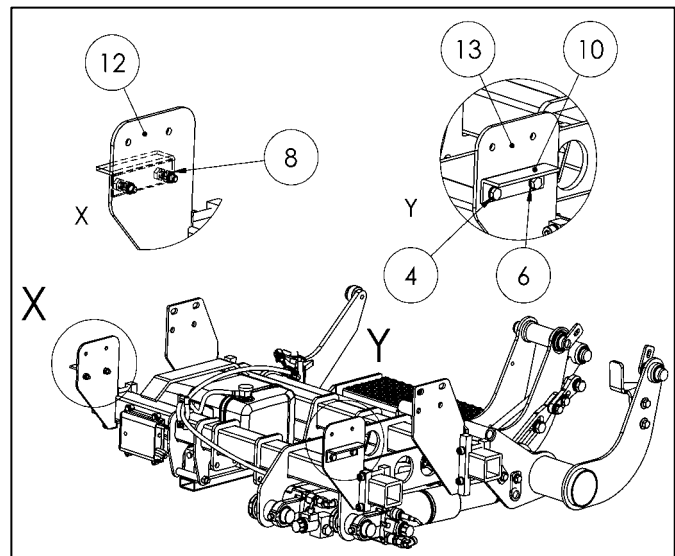

Fig. 13
- Secure the two angle brackets (10) to the installation adapters (12 and 13) using the hexagon head screws (4), washers (6), and lock nuts (8) and tighten to a torque of **23 Nm** (see Fig. 13) (parts from installation adapter kit – Part No. 22 911 217 or 22 911 235)